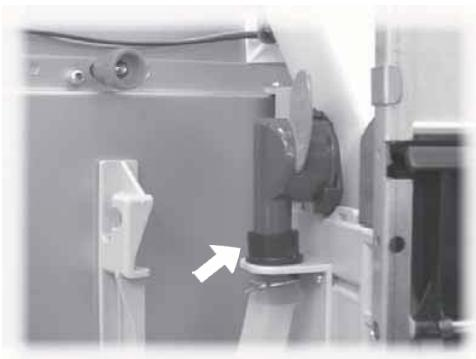

Fig. 82
- replace the container taking care to insert the nozzle into the coupling (Fig. 82).